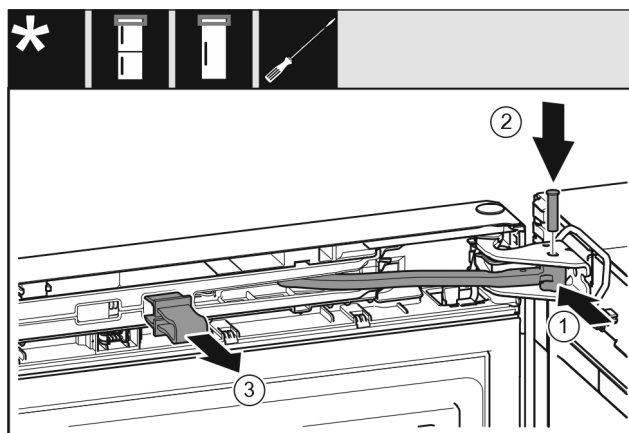

Fig. 25
- ▶ Turn the joint Fig. 25 (1) in the bearing block.
- ▶ Insert theobolt Fig. 25 (2) into the bearing bracket and joint. Ensure that the latching cam is in the groove properly.
- ▶ Remove the safeguard Fig. 25 (3).